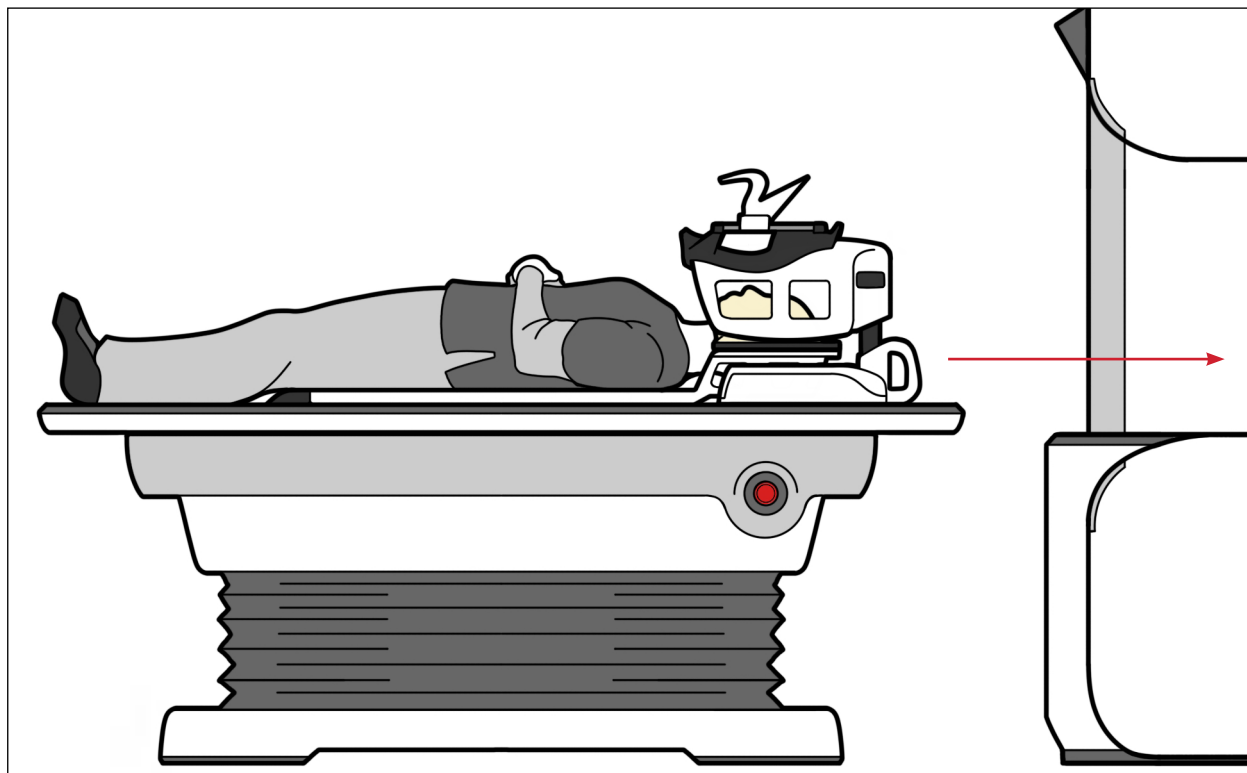

Figure 12
12. Advance patient into MR Bore for imaging (Fig. 12).